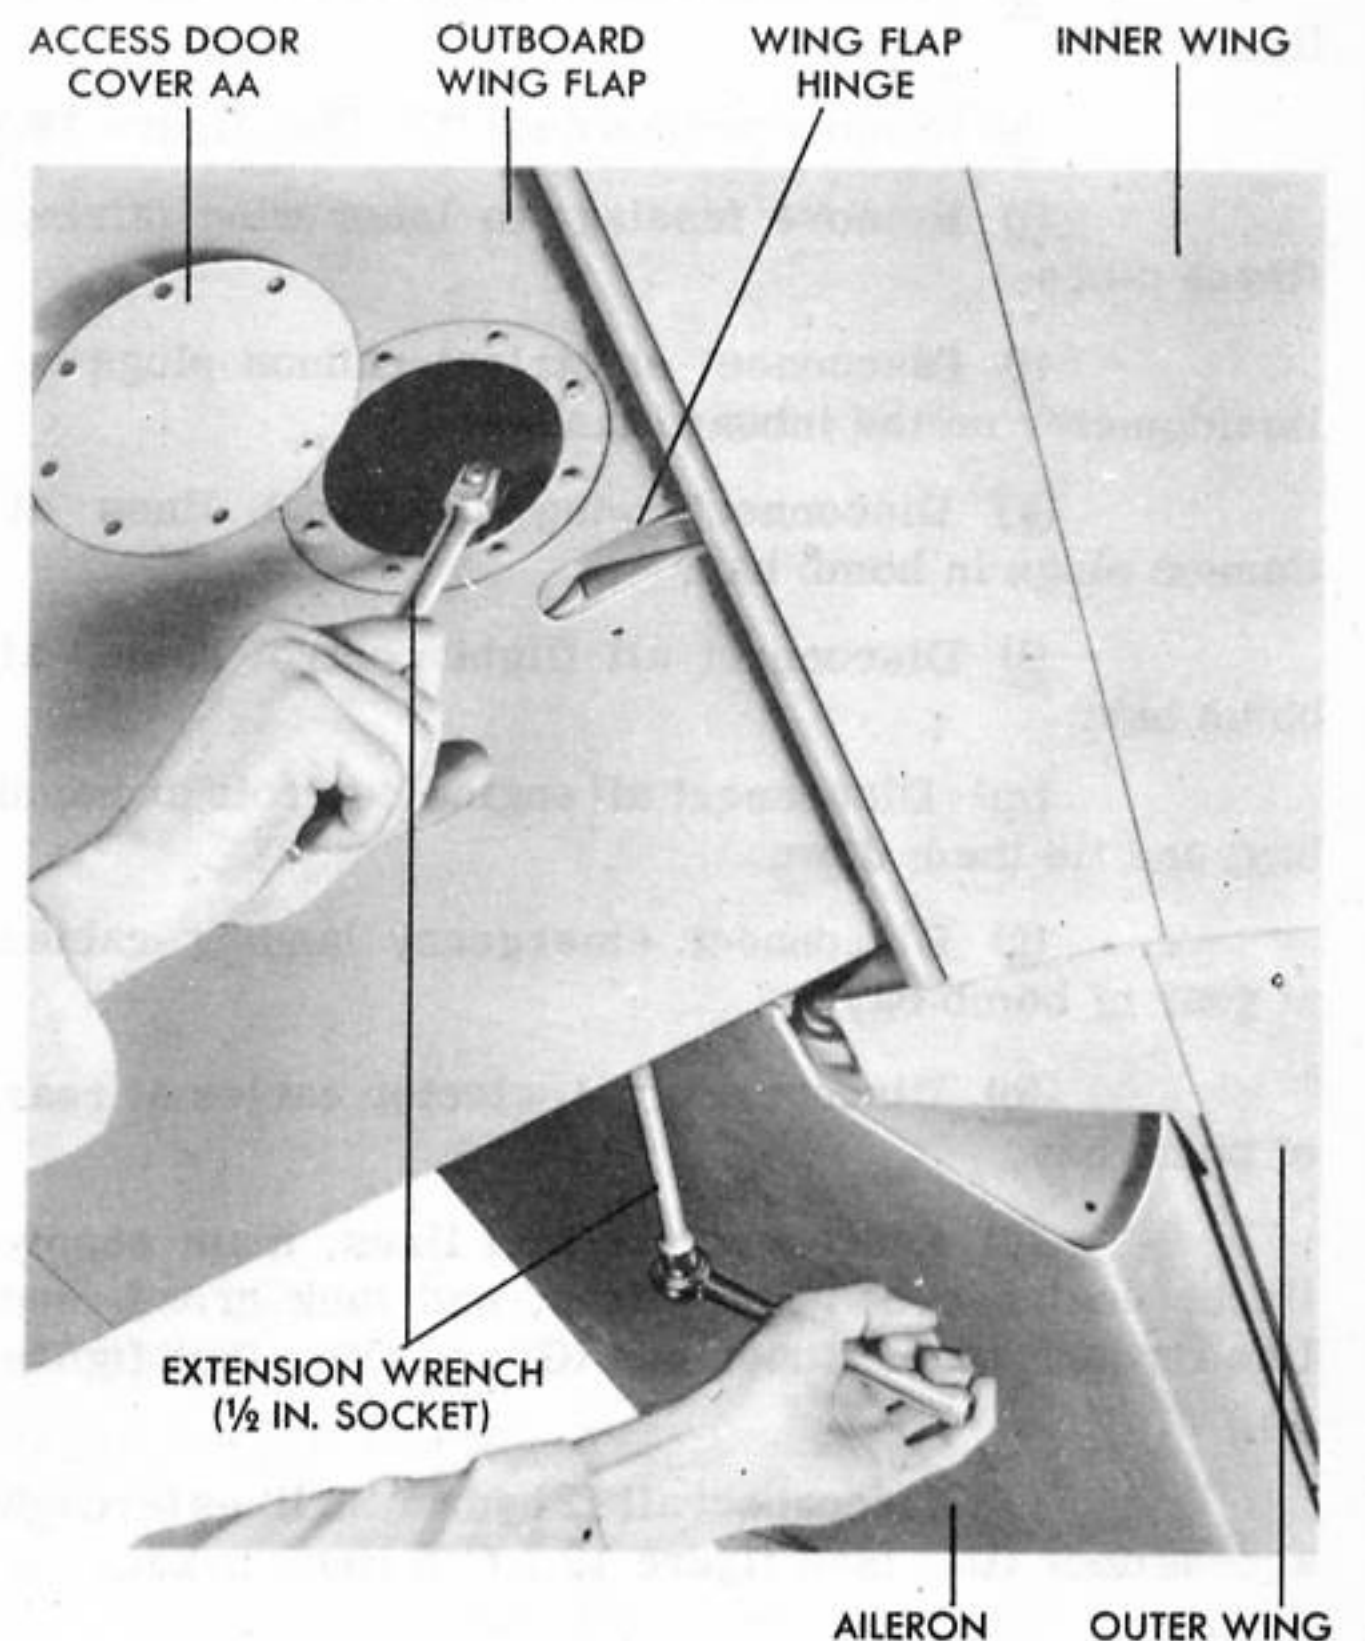

Figure 31 - REMOVING OUTBOARD WING FLAP
(3) INSTALLATION OF OUTBOARD WING FLAP. (See figure 31.)